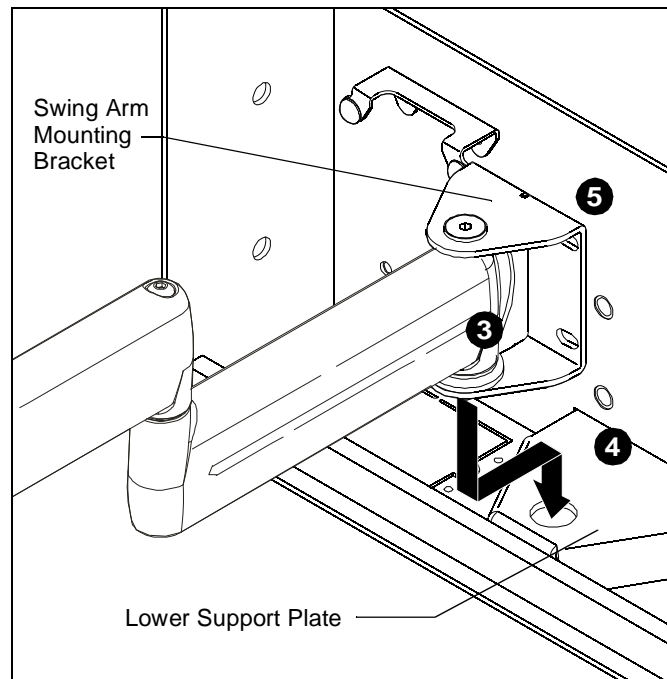

Figure 2
3. Align bottom of swing arm pivot pin with hole in lower support plate. (See Figure 2)
4. Lower swing arm until pivot pin rests in hole in lower support plate. (See Figure 2)
with four mounting holes in FAC501. (See Figure 2)